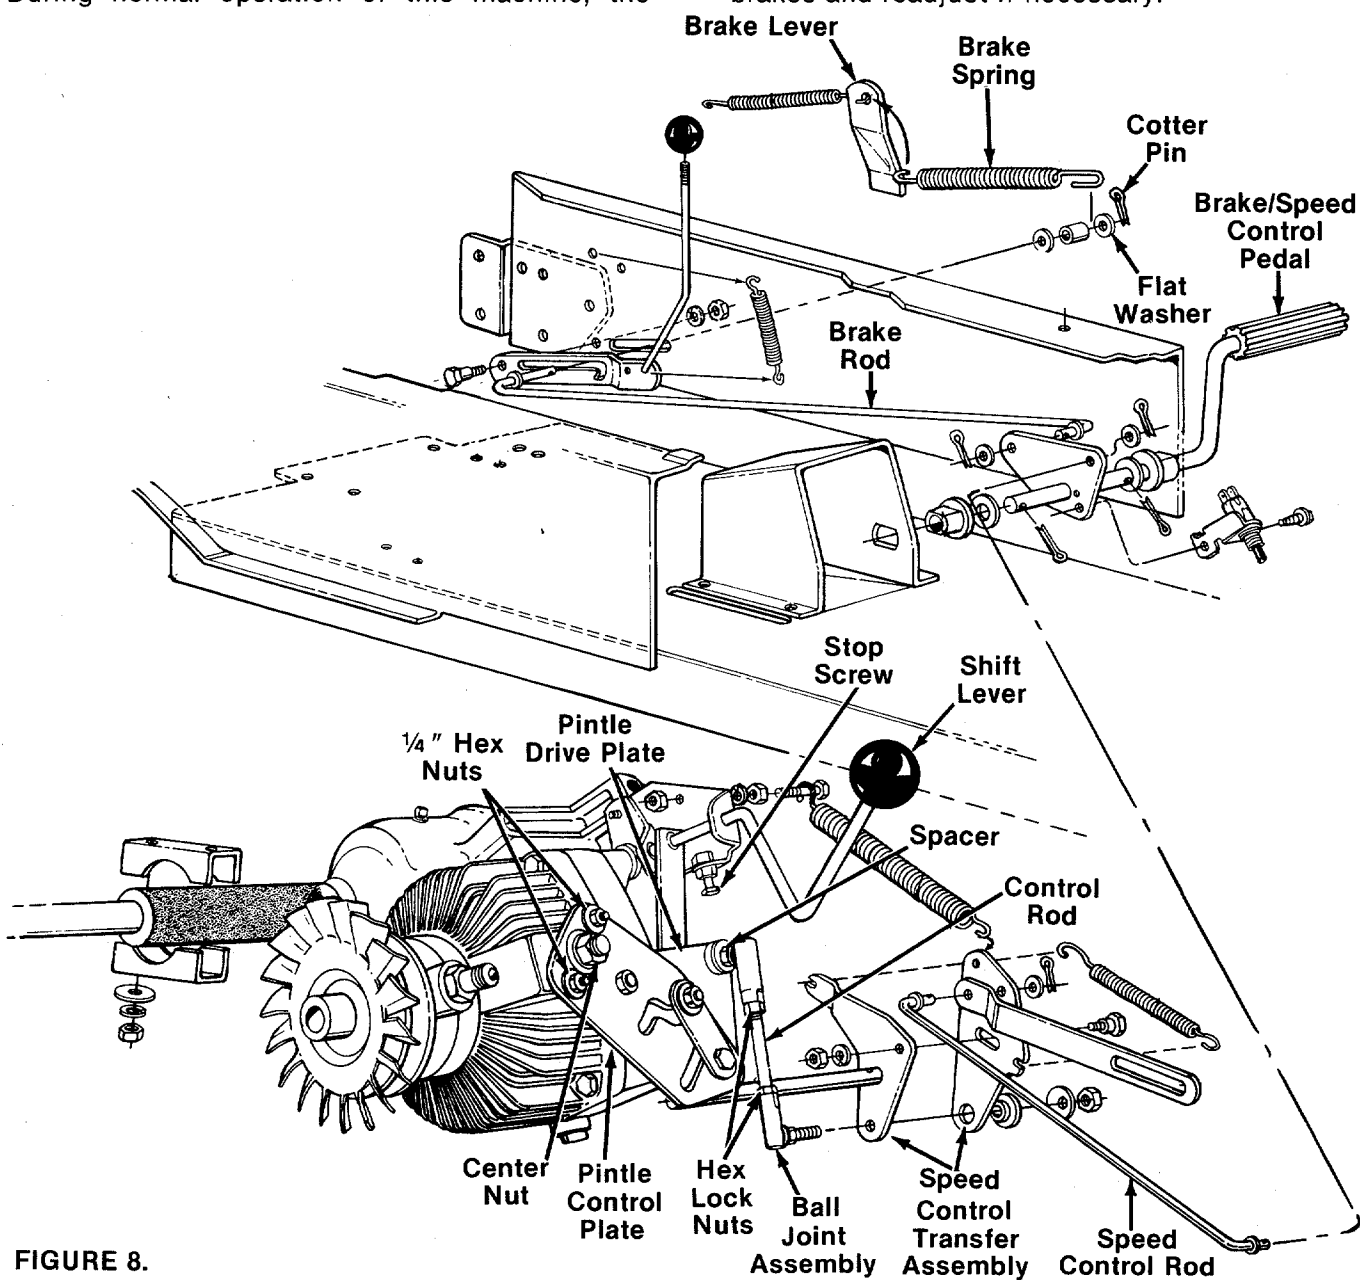

FIGURE 8.
The five position lift lever is used to change the operating position of the attachments. To operate, pull the lever towards you. To release, move the lever to the right and then forward. See figure 8.
HYDROSTATIC CONTROL ADJUSTMENT (See figure 8)
5. Move shift lever to forward position, and move pintle control plate to fast forward (position shown in figure 8). Be certain to hold the pintle control plate in this position as you tighten the hex nuts in steps 6 and 7.
NEUTRAL ADJUSTMENT (See figure 8)